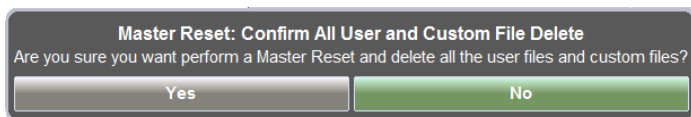

Figure 1-2. Master Reset Confirmation
3. To erase all user files in internal memory, press the Master Reset button. A dialog box is displayed on the screen warning that all settings will be returned to factory default values and all user files will be deleted (Figure 1-2).